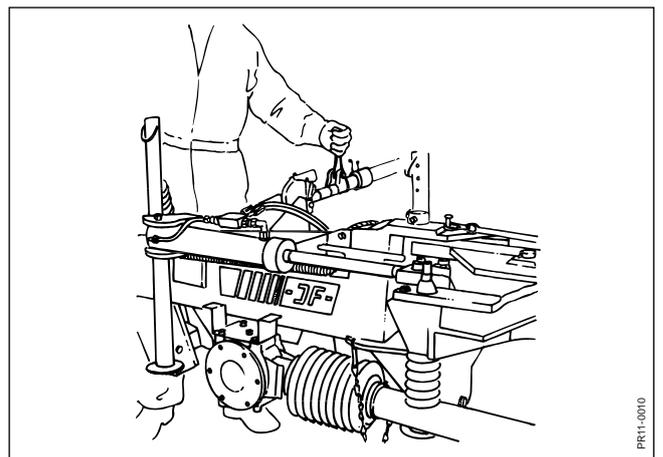

Fig. 3-5
- Fig. 3-5:** The cutting height can be adjusted with the length of the top link. A short top link gives a low cutting height.